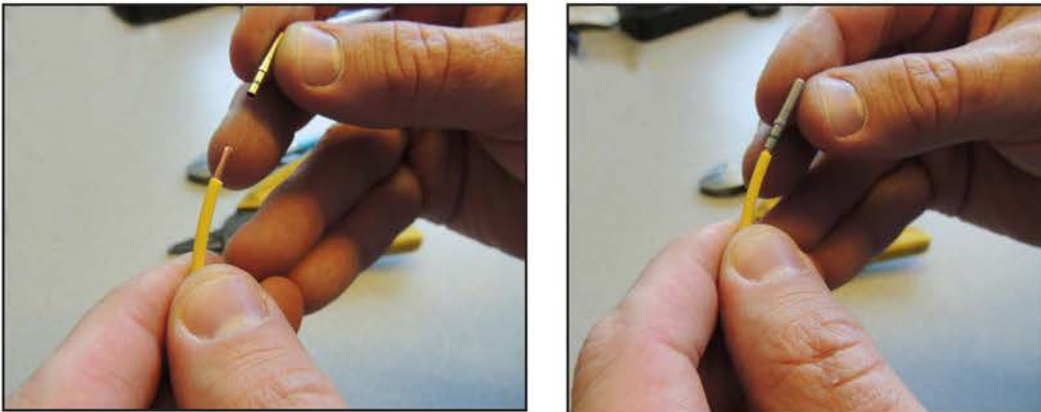

Figure 5: Install gold Deutsch socket onto wire. (Silver Deutsch socket shown for illustrative purposes only.)
8. Install a gold Deutsch socket #16 on the end of the wire (P/N 8KP226) (Figure 5). (Silver Deutsch socket shown for illustrative purposes only.)